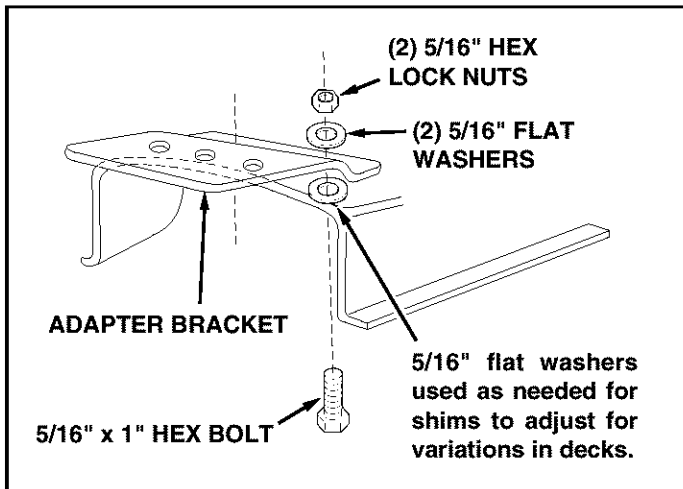

FIGURE 25
- Assemble the adapter bracket to the deck using two 5/16" x 1" hex bolts, 5/16" flat washers and 5/16" hex lock nuts. See figure 25.
NOTE: It may be necessary to use extra 5/16" flat washers to shim under the bracket next to the deck surface. Ten extra washers have been furnished as shims. See figure 25.